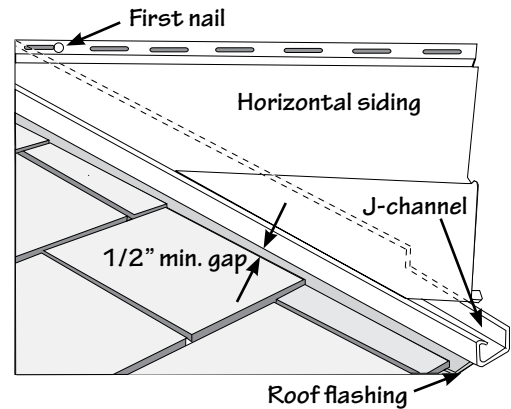

Figure 35.
- Fasten the nail, screw, or staple that is closest to the roof line at the far end of the nail hem slot, to ensure that siding will expand away from the J-channel (Fig. 35).